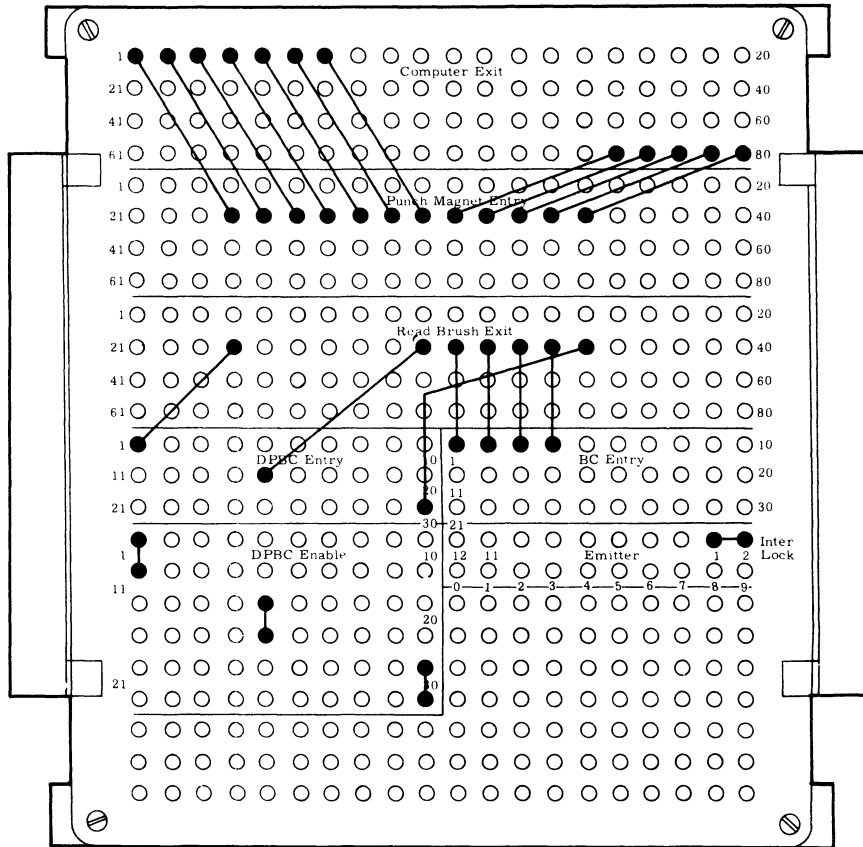

Figure 40. Plugboard Wiring for Blank Columns
- In either mode of operation, to have the internal logic test a particular card column for a blank condition, plug from the READ BRUSH EXIT hub corresponding to the desired column number to any of the BC ENTRY hubs. (See Figure 40.)